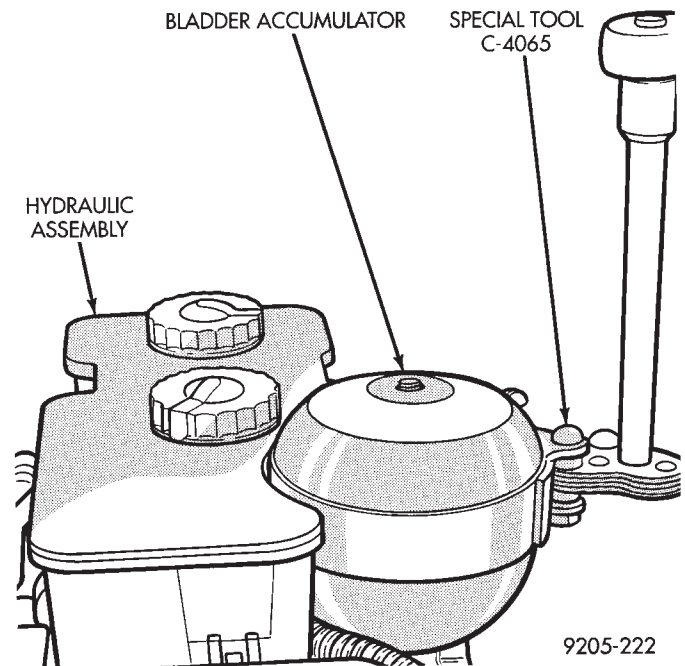
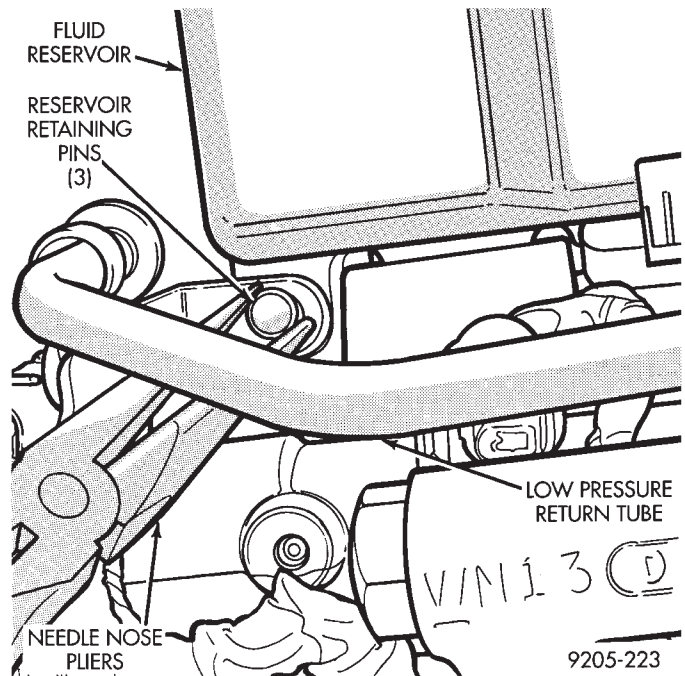
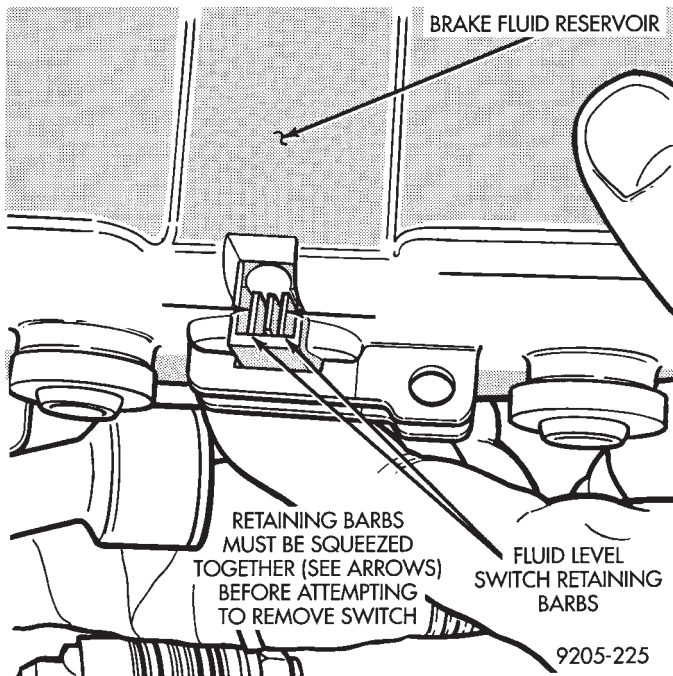
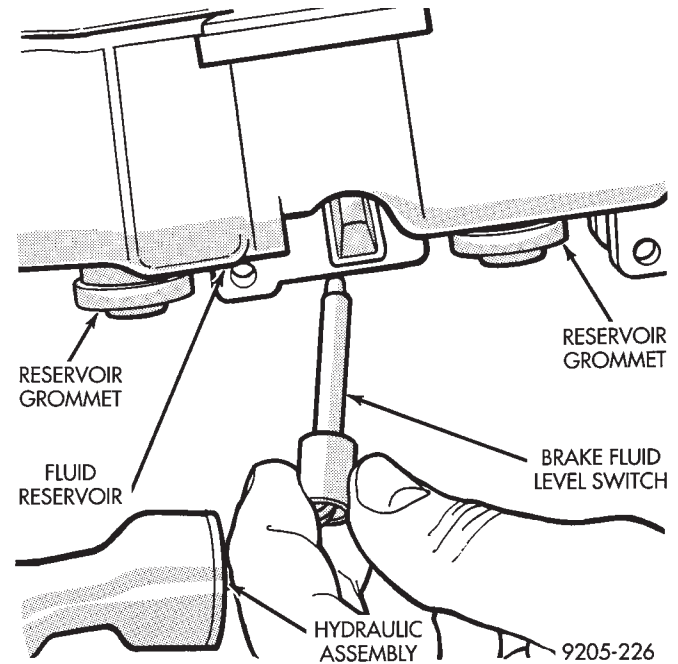

Fig. 10 Removing Bladder Accumulator
Fig. 11 Remove Reservoir Retaining Pins
Fig. 13 Fluid Switch Retaining Barbs
Fig. 14 Remove Brake Fluid Level Switch
(2) Remove as much brake fluid as possible from the fluid reservoir, using a syringe or equivalent method.
(3) Using Oil Filter Band Wrench, Special Tool C-4065 or equivalent loosen bladder accumulator. Then remove the bladder accumulator and brake fluid spray shield from the hydraulic assembly (Fig. 10). Remove high pressure banjo fitting from hydraulic assembly.
(4) Using needle nose pliers, remove the three fluid reservoir retaining pins from the hydraulic assembly (Fig. 11). Compress the barb on the opposite side of retaining pin to prevent pin from breaking.
Remove switch by compressing the retaining barbs (Fig. 13) on the end of the switch and then slide switch out of the brake fluid reservoir (Fig. 14)
(7) Using fingers, remove the 3 reservoir grommets (Fig. 14) from the hydraulic assembly or reservoir, and discard. **Grommets must not be reused when reservoir is installed on hydraulic assembly.**
(1) Thoroughly lubricate the new reservoir grommets with clean brake fluid and install on reservoir outlet ports (Fig. 14). **The new reservoir grommets supplied with reservoir, must ALWAYS be used.**
(2) Install brake fluid level switch into brake fluid reservoir (FIG. 14).
(3) Press reservoir into hydraulic assembly **BY HAND**, using a rocking motion to help seat reservoir into hydraulic assembly. Be sure that grommets are fully seated in the hydraulic assembly. **DO NOT ATTEMPT TO POUND RESERVOIR INTO HYDRAULIC ASSEMBLY, USING A HAMMER.**
(4) Using needle nose pliers, install the 3 brake fluid reservoir to hydraulic assembly retaining pins (Fig. 11). Make sure that pins are fully installed with barbs extending past reservoir on opposite side.
(5) Reinstall the high pressure hose, banjo fitting onto the hydraulic assembly and torque the fitting to 13 N•m (10.0 ft.lbs).
(6) Install the brake fluid spray shield and bladder accumulator onto the hydraulic assembly. Install the bladder accumulator by hand to be sure it does not bet cross threaded. **Be sure that the O-Ring on the bladder accumulator is fully seated into the hydraulic assembly.**
(7) Using Oil Filter Band Wrench, Special Tool C-4065 or equivalent, (Fig. 10) torque the bladder accumulator to 48 N•m (35 ft. lbs.)